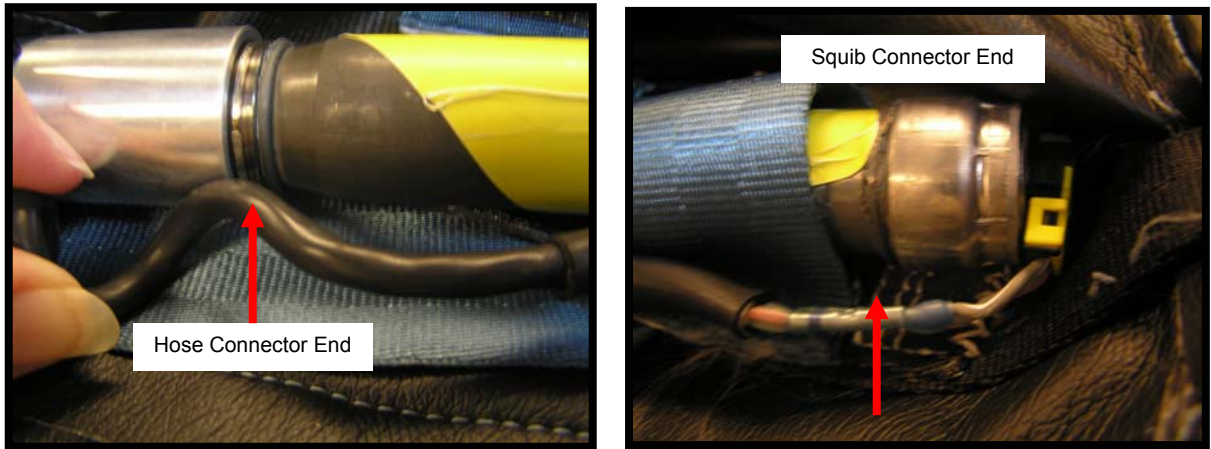

Figure 7 – Tie Points on Inflator
- g. Attach **Tiedown Straps** (31), or equivalent, at both ends of the **Inflator** securing cable to **Inflator** taking care not to damage cable or involve Web Loop (Figure 7). Use appropriate tool to cut ends of **Tiedown Straps** so as to not leave sharp edges.